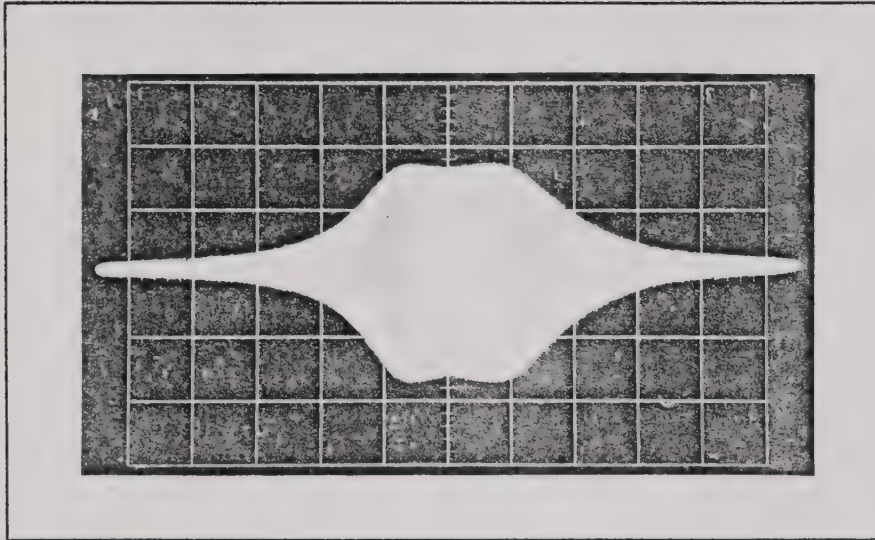

FIGURE 4.1 N CHANNEL IF AMPLIFIER BANDPASS
- 11) Adjust A5L3 and A5L4 for the waveform shown in Figure 4.1. Very minor adjustment should be required.